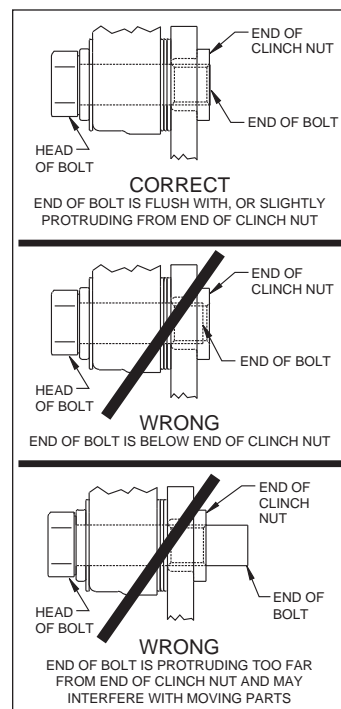

Figure 7. Clinch Nut Engagement Diagram
between the bracket and the caliper. Always use the same amount of shims on each of the two mounting bolts. **NOTE:** The end of each bolt must be flush with or slightly protruding from the head of the clinch nut, as shown in Figure 7. If necessary place spare shims between washer (7) and caliper mounting ear to achieve the proper clinch nut engagement. Once the caliper alignment and clinch nut engagement are correct, remove the bolts one at a time, apply red *Loctite*® 271 to bolt threads, and torque to 40 ft-lb.
• Install the disc brake pads (10) into the caliper, with the friction material facing the rotor (3), and secure in place using cotter pin (4), Photo 3.